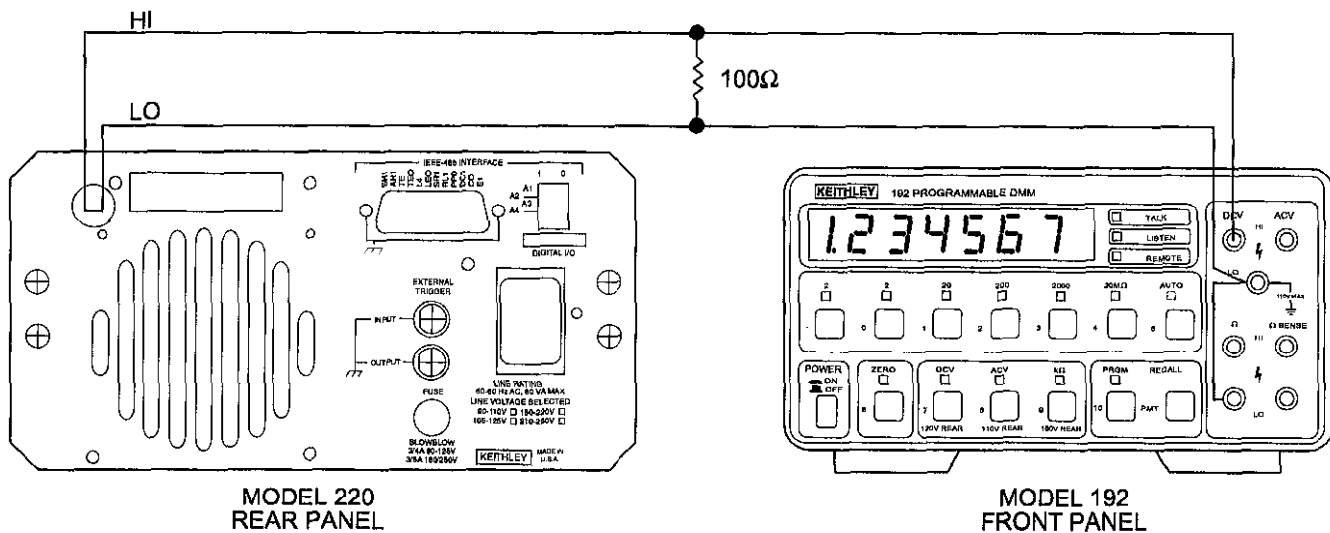

Figure 3-1. 100mA to 1mA Range Verification
1. Connect the Model 220, Model 192 and the 100Ω load resistor as shown in Figure 3-1.
1. Replace the 100Ω resistor in Figure 3-1 with the 100kΩ resistor specified in Table 3-1.